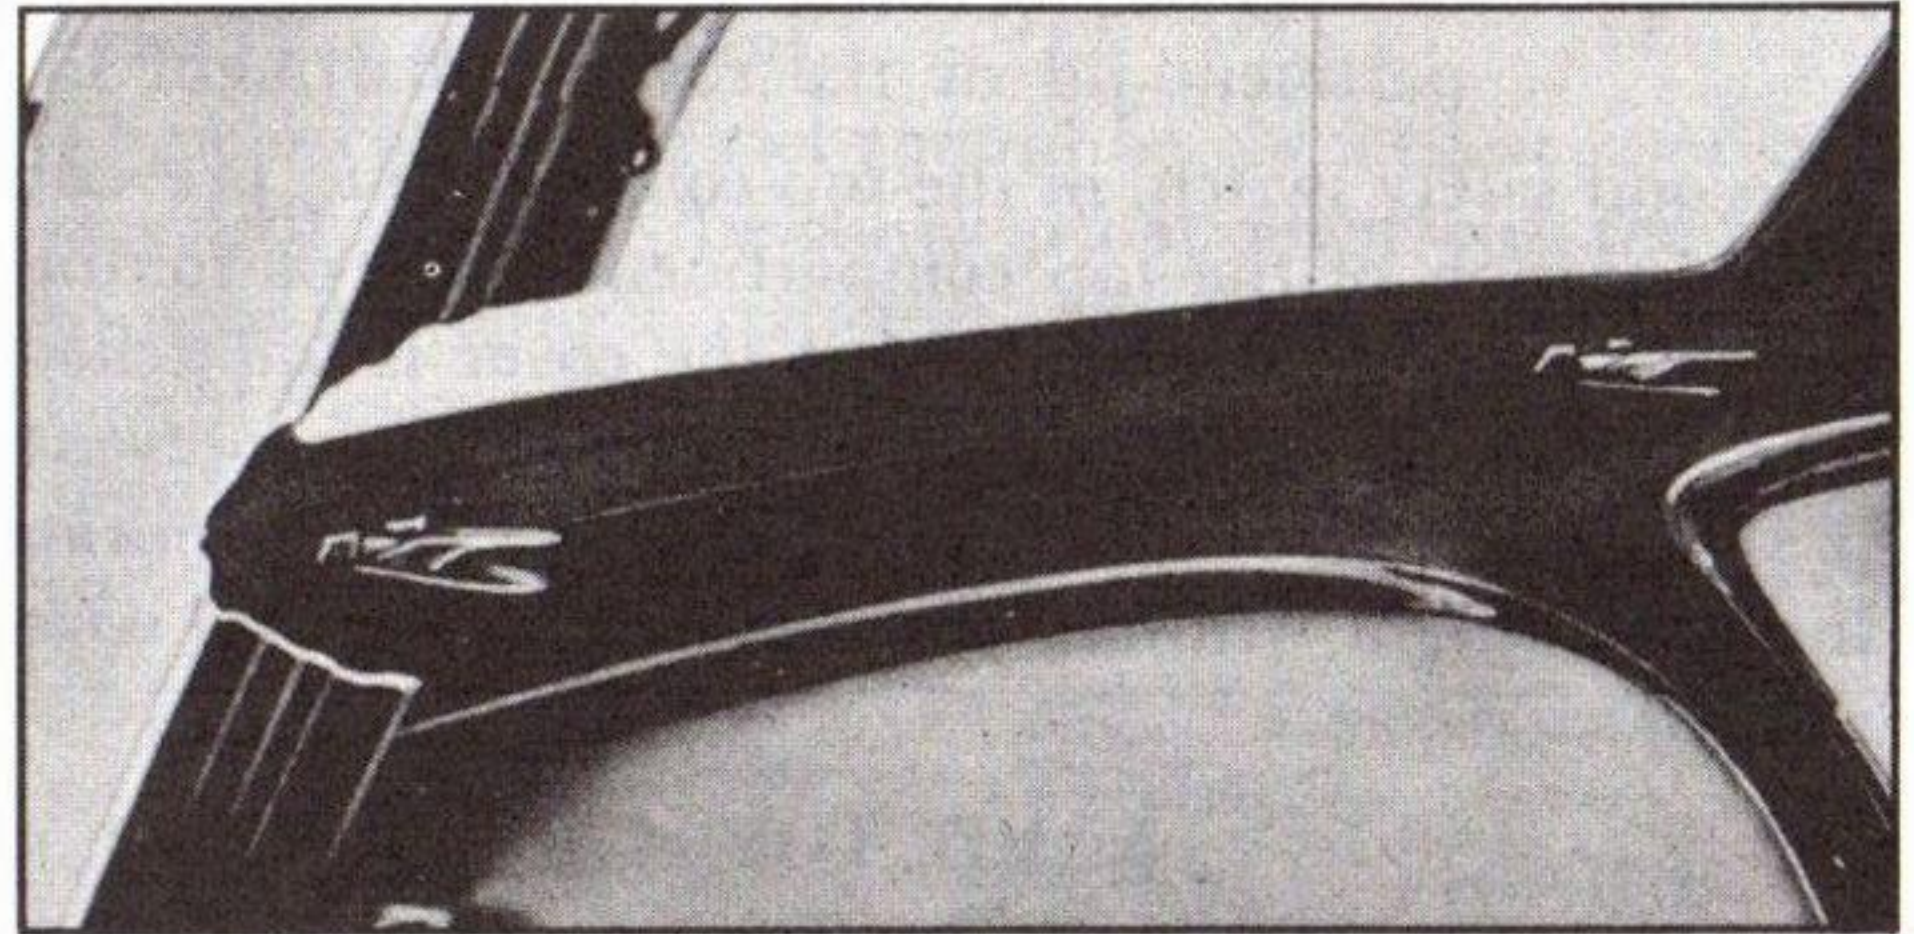

Fig. 78—Rear Latch
1. Unlatch the header and rear bow (fig. 78). Double check to see that all latches are completely free and not caught in any way.